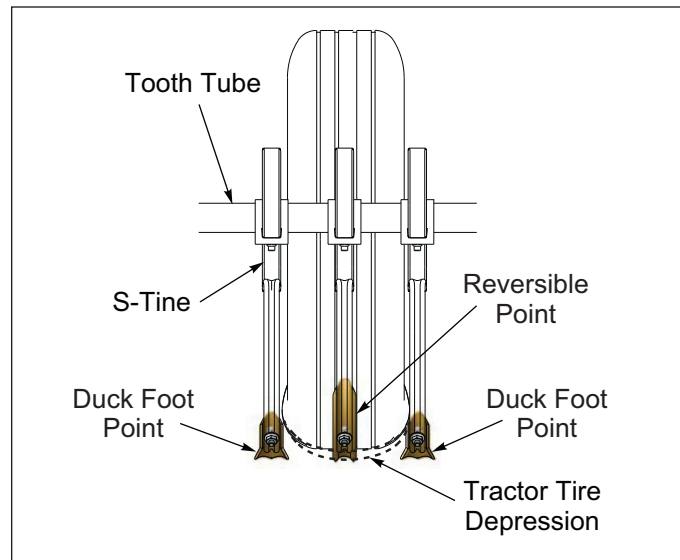

Figure 2-6: S-Tine Point Position
S-Tine Brackets and S-Tines should be positioned per application. S-Tine Brackets and S-Tines can be positioned anywhere on the Tooth Tube, use **Figure 2-6** only as a reference.
1. Orient a set of Channel Adapters so 4-1/2" hole spacing is downward. **See Figure 2-6.** Position the S-Tine Brackets so the 4 holes are upward. Attach the S-Tine Bracket to bottom two holes of the Channel Adapter plate with 1/2-13 x 1-1/2 Bolts, Lock Washers and Nuts. Place the Channel Adapters with the S-Tine Bracket attached, against the front of the Pulverizer Frame Tube and attach with Long Straps, 1/2-13 x 8 Bolts, Lock Washers, and Nuts.